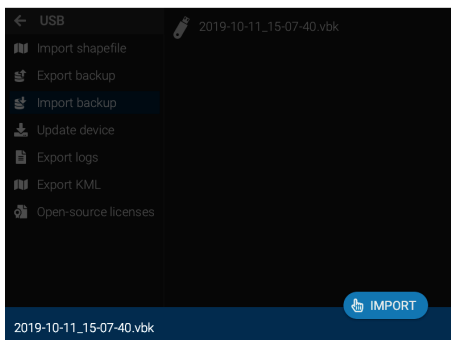
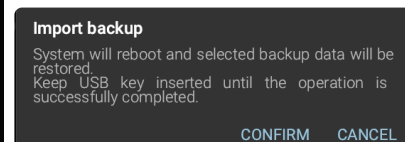

Fig. 89
Fig. 90
- Select the file: the monitor displays the name of the selected file (Fig. 89).
- Press **IMPORT** (Fig. 89) and then **CONFIRM** (Fig. 90).